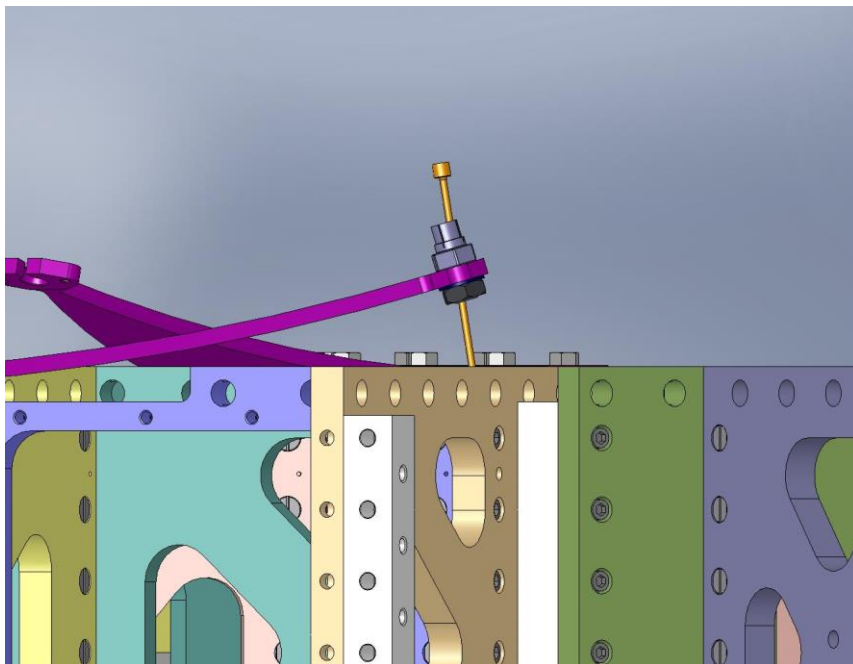

Figure 4.92. Torque the jam nut against the hex flange on the Flexure Mount.
- Thread the jam nut onto the **Flexure Mount**, as shown in **Figure 4.92**. Make sure there is good contact between the **Mount's** hex flange and the top of the **Spring**. Torque the nut to final spec.